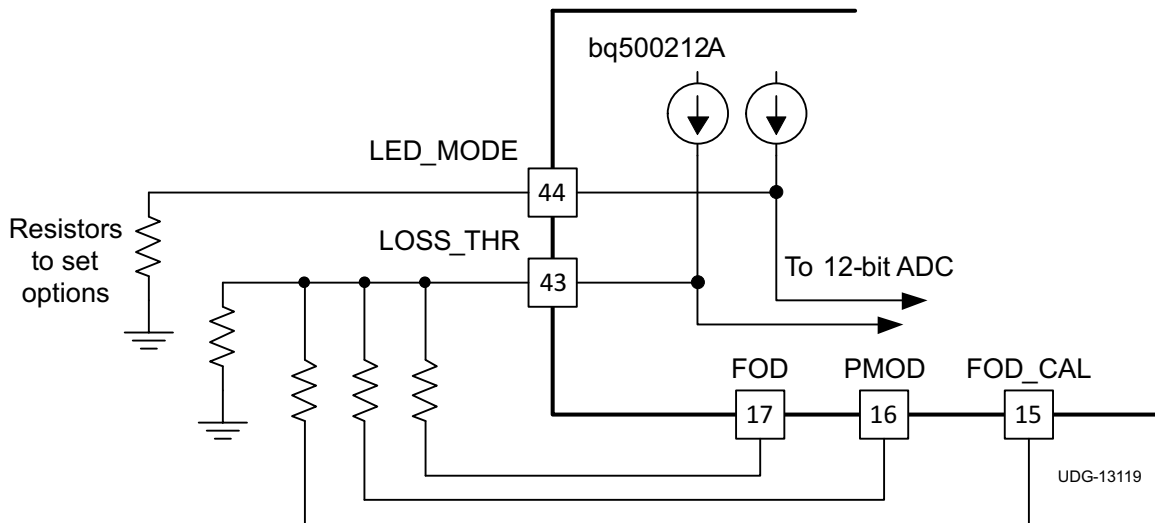

Figure 3. Option Select Pin Programming
The bq500212A can directly drive up to three (3) LED outputs (pin 7, pin 8 and pin 18) through a simple current limit resistor (typically 470 Ω), based on the mode selected. The current limit resistors can be individually adjusted to tune or match the brightness of the LEDs. Do not exceed the maximum output current rating of the device. The resistor in Figure 3 connected to pin 44 and GND selects the desired LED indication scheme in Table 1.